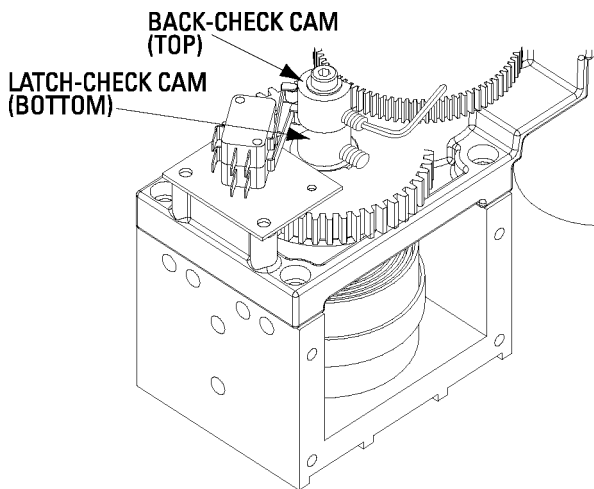

Fig. 26
3. Using a 3/32" Allen wrench, loosen the set screw on the back-check cam (top cam) (see Fig. 26).
3. Using a 3/32" Allen wrench, loosen the set screw on the latch-check cam (bottom cam) (see Fig. 26).